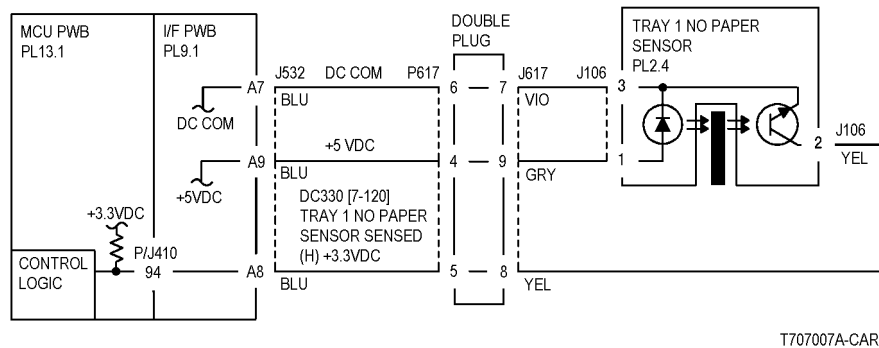

Figure 1 3-950 RAP Circuit Diagram - Tray 1 No Paper Sensor
Press **Stop**. Check the circuit of the Tray 1 No Paper Sensor (Figure 1). Refer to the OF 99-2 RAP for troubleshooting procedure.
- Ensure that the connectors shown in the circuit diagram (Figure 1) are securely connected and that the wires are not damaged.